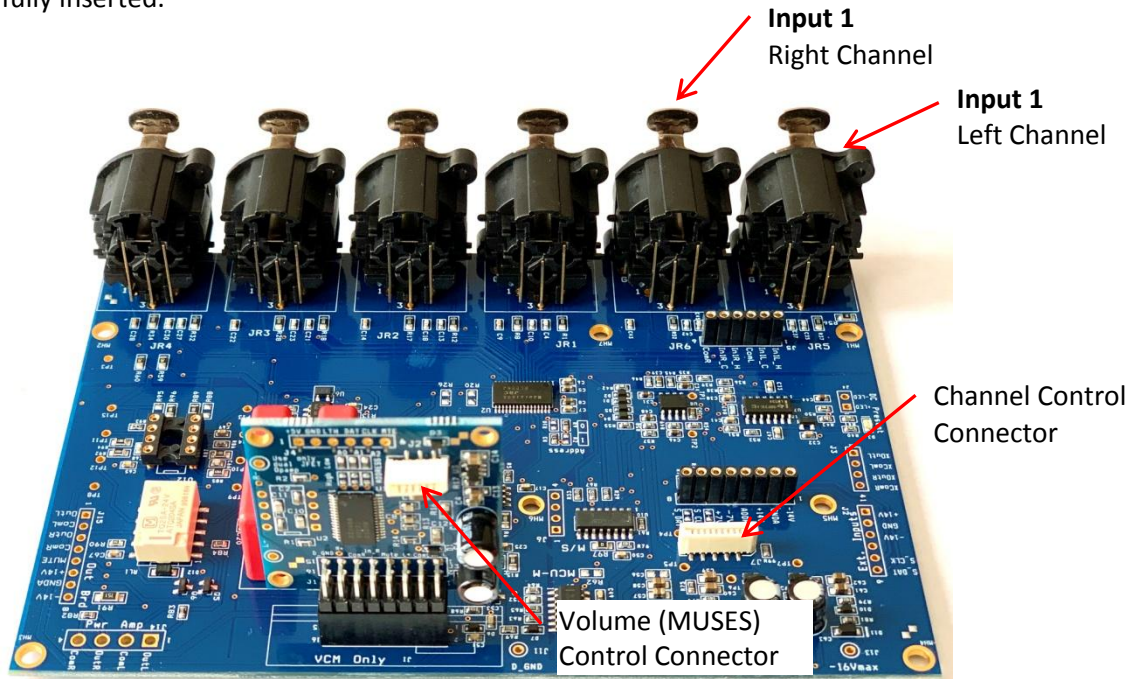

Figure 5.2. ISB board /VCM board control connectors.
5.4. Connect flat cables supplied with the MCL board to the ISB/VCM combination. Connect the narrow 6-conductor cable to the VCM MUSES control connector J2 (VCM). Connect the wider 10-conductor cable to the channel control connector J7 (ISB) as shown on the Figure 5.2. Make sure the contact area of each cable faces the corresponding connector contacts, and the cables are fully inserted.